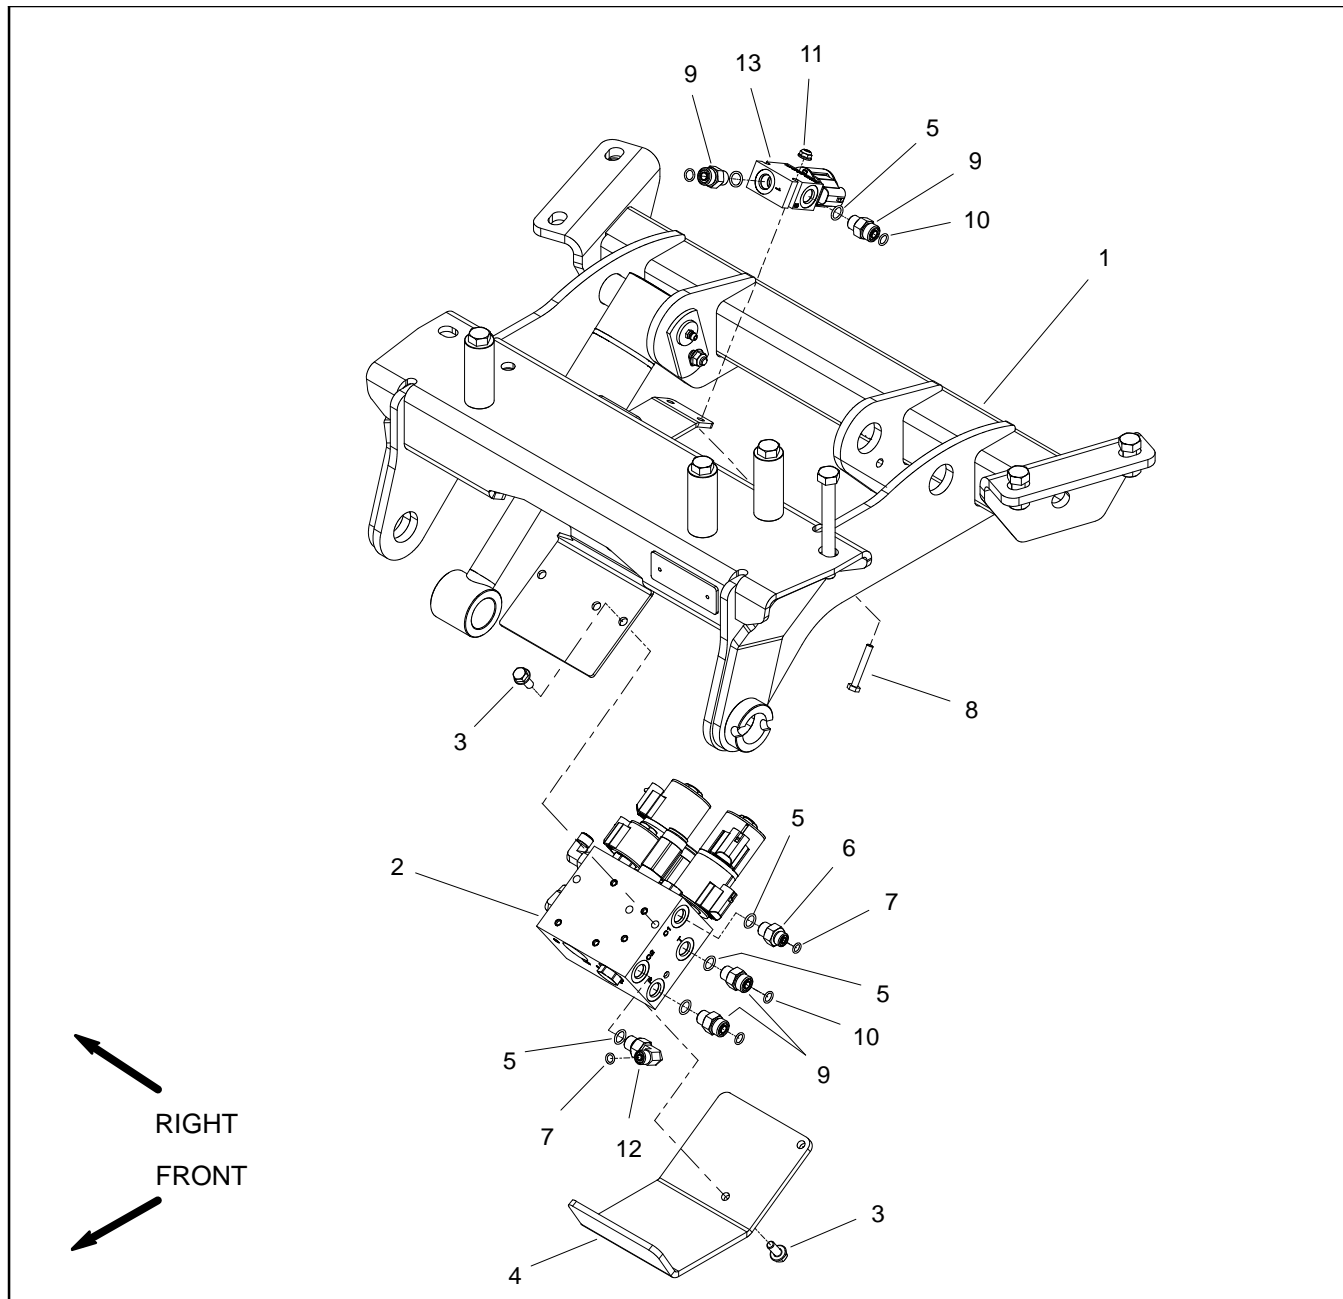

Figure 143
### Manifold Removal (Fig. 143)
11. Using Figure 143 as a guide, remove fasteners that secure manifold to QAS frame. Remove manifold from machine.
### Manifold Installation (Fig. 143)